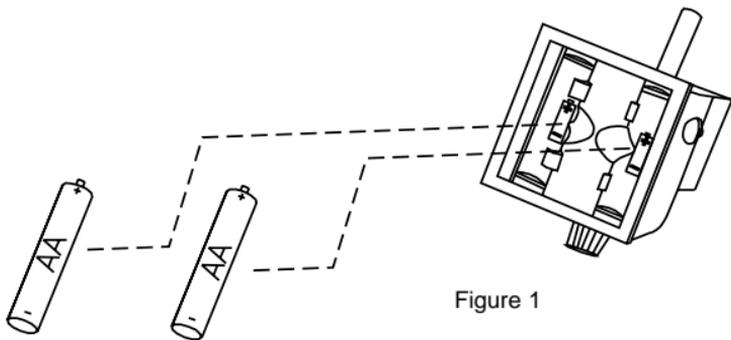

Figure 1
2. Turn the trickler upside down and install 2 AA batteries (not included) in the battery compartments. Make sure the polarity is correct (see figure 1). **Caution: Batteries that are installed backwards may cause damage to the product!** The batteries are designed to fit